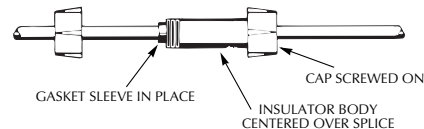

FIGURE 12
7. Center insulator body over splice and slide neoprene sleeves into body as far as they will go. Screw caps onto insulator body (Figure 12) and tighten by hand for a strong, waterproof splice.